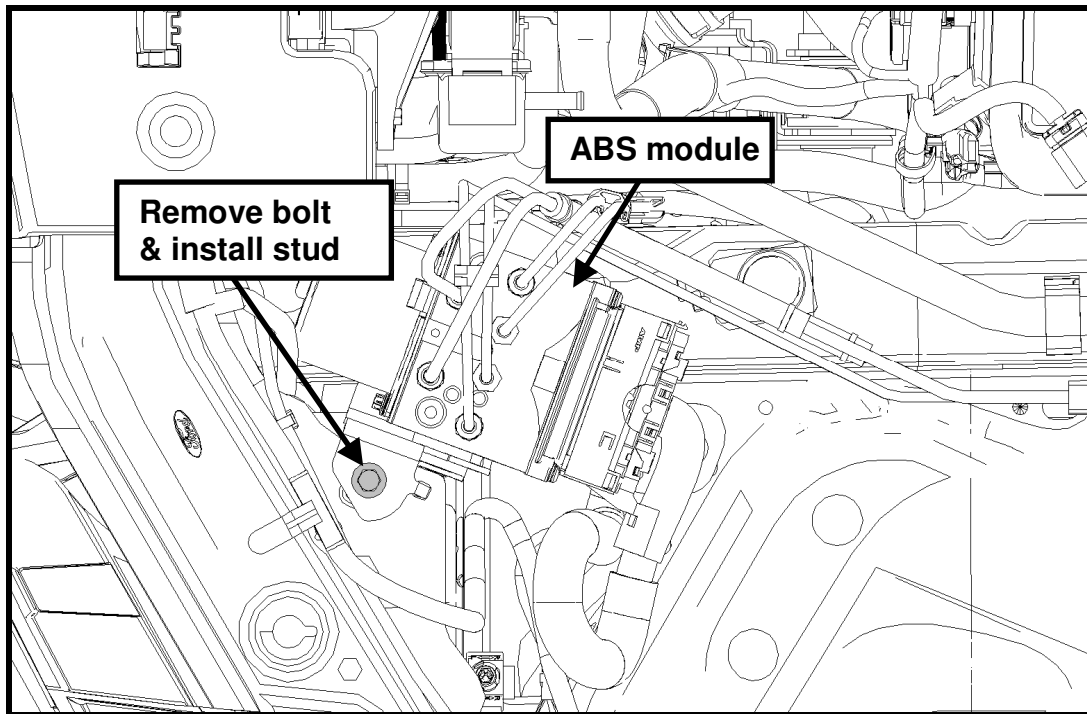

Fig. 5
STEP 2: Locate the ABS module bracket and remove the bolt shown below (Fig. 5). If vehicle is non-ABS, install U-nut in this location.
STEP 3: Install stud in this location and torque to 25 Nm (221 lb in) (See Fig. 5).